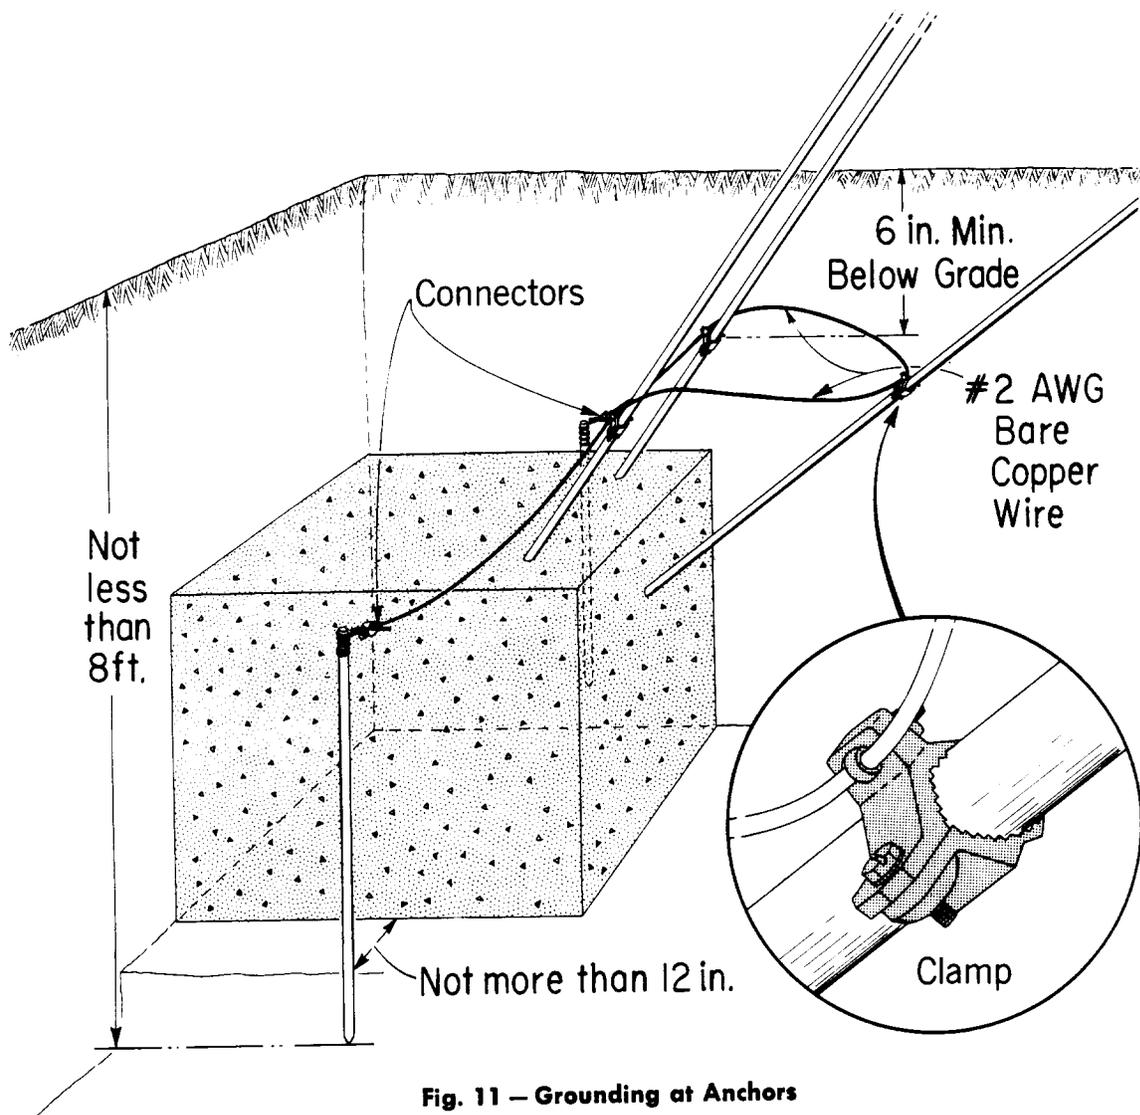

Fig. 11 - Grounding at Anchors
4.05 As shown in Fig. 11, each anchor is protected with two ground rods connected to the guy rods by a length of No. 2 AWG bare copper wire. Ground rods should be installed after the concrete has been poured and set, but before the excavations are backfilled. The ground rods are 5 feet long and when installed to a depth of 8 feet, their tops will be about 3 feet below grade. While the excavations are open, it will be relatively easy to gouge a channel in the two sides of the excavation which are to receive the ground rods. The channel need be no more than 6 to 10 inches deep and about 6 inches wide to permit room to drive the rod. Since the tail of the ground rod is about 12 inches long, the connection to the No. 2 copper wire can be made outside the channel. The tail of the ground rod should be connected to a length of wire which is long enough to reach the ground rod on the opposite side of the anchor, and also permit connection to all guy rods associated with the anchor. Connectors are provided to join the ends of the wire to the tail of each ground rod and a clamp is provided to secure the wire to each guy rod. The clamps should be positioned so that they will be at least 6 inches below grade. Excavations may be backfilled after all connections are tightened, but care should be exercised to ensure that connections are not broken or damaged in this process.